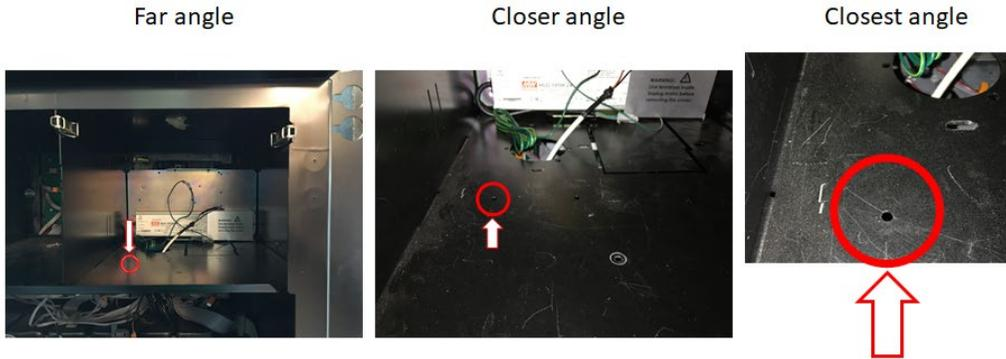
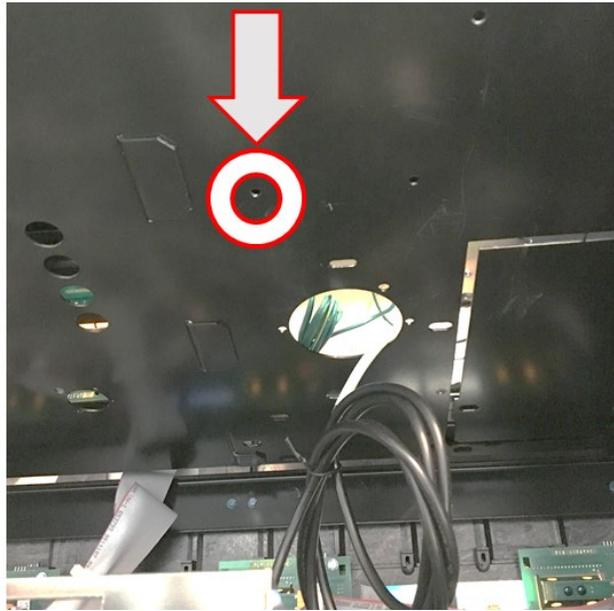
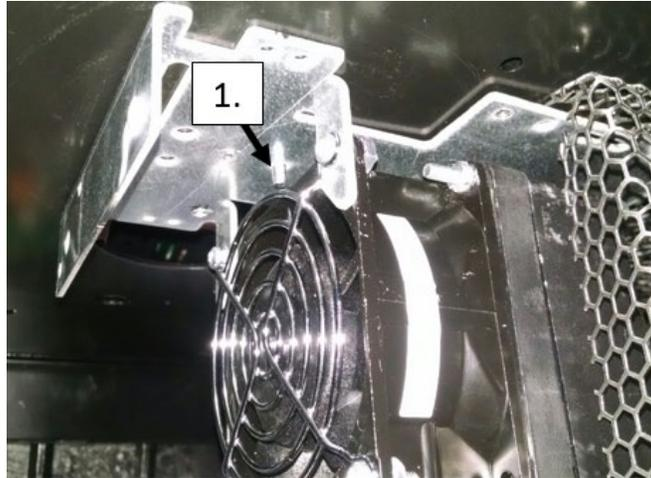

Figure 33
Figure 34
Figure 35
- 5) Mount the heater assembly to the underside of the top cavity floor at as shown in Figure 32, Figure 33, Figure 34, and Figure 35 using one provided thread-forming screw 006-8626667.